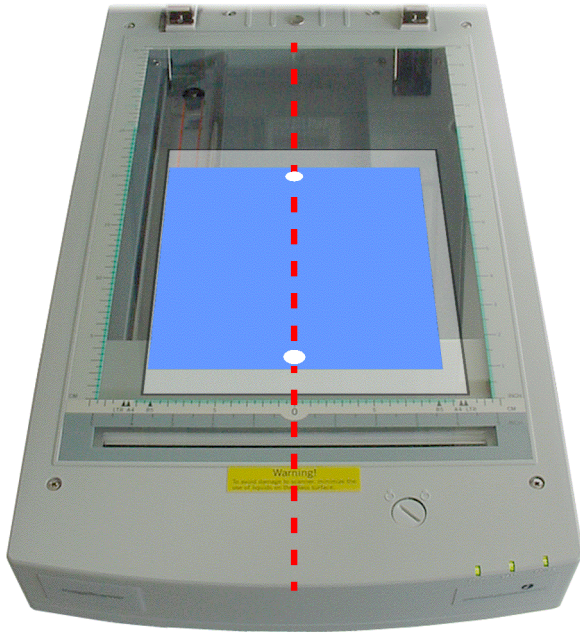

Fig 3-4. Correct positioning of the gel on the ImageScanner.
- The markers must be placed in the middle of the scanning area (Fig. 3-4).
- The top of the gel, which was in contact with the Immobiline Dry strip, must be placed on the right side when looking at the scanner as showed in Fig. 3-4.